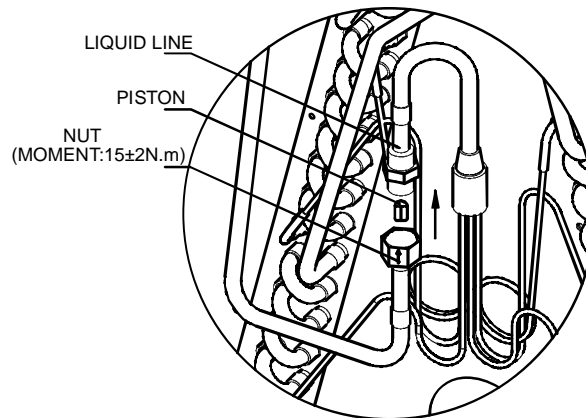

Fig.7 FLOWRATOR PISTON CHANGE
- 4.Remove and replace piston shown in Fig.7.